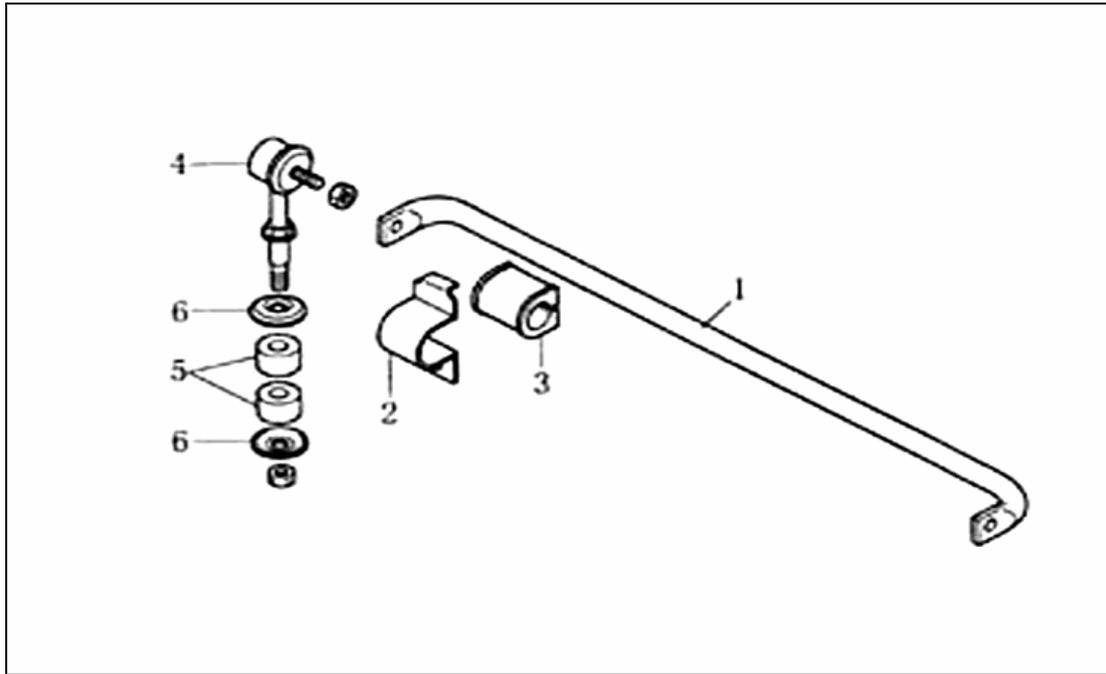

FIG.14-4
## 1 FRONT STABILIZER BAR (FIG.14-4)
- (1) Check front stabilizer bar and bracket for damage and distortion; replace them if necessary.(FIG.14-4)